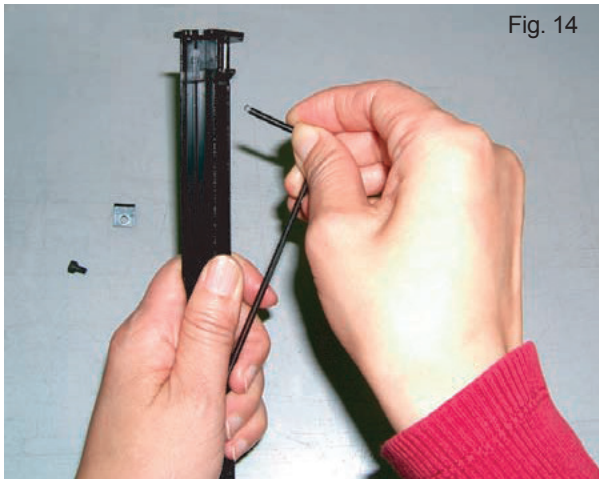

Fig. 14
6. Hold the pusher firmly in one hand, with the other hand, slightly stretch the spring, bend slightly, and hook the spring onto the hook in the magazine cover slot (Fig. 14). be careful not to over stretch the spring.